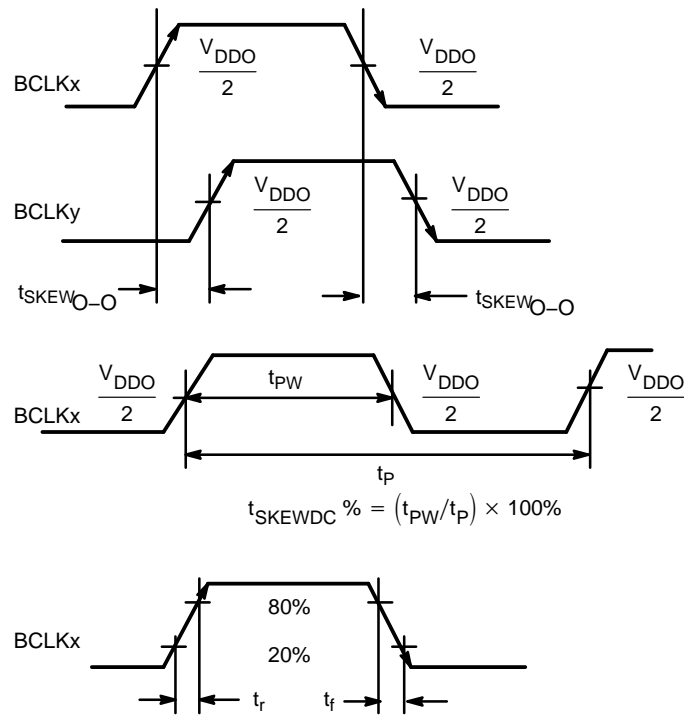

Figure 4. AC Reference Measurement
| $tSKEW_{DC}$ | Duty Cycle Skew (See Figure 4) | 47 | – | 53 | % | |
5. Crystal inputs $\leq F_{max}$. Outputs loaded with $50\ \Omega$ to $V_{DDO}/2$. CLOCK (LVCMOS levels at XTAL1 input) 50% duty cycle. See Figures 4 and 7. See APPLICATION INFORMATION; Crystal Input Interface for CL loading.
| tSKEW _{DC} | Duty Cycle Skew (See Figure 4) | 48 | - | 52 | % | |
| tSKEW _{DC} | Duty Cycle Skew (See Figure 4) | 47 | - | 53 | % | |
5. Crystal inputs ≤ F_{max}. Outputs loaded with 50 Ω to V_{DDO}/2. CLOCK (LVCMOS levels at XTAL1 input) 50% duty cycle. See Figures 4 and 7. See APPLICATION INFORMATION; Crystal Input Interface for CL loading.